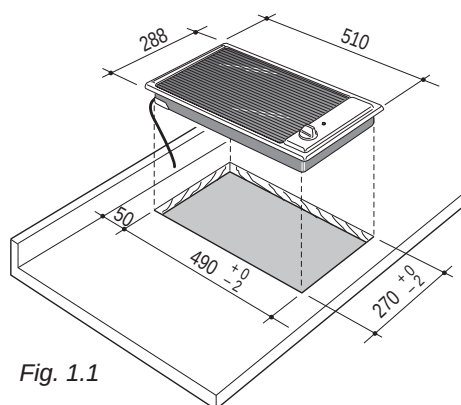

Fig. 1.1
In order to install the appliance into the kitchen fixture, a hole with the dimensions shown in fig. 1.1 has to be made, keeping in consideration the following:
- the wall behind the appliance must be at least 50 mm away (fig. 1.1) and must withstand temperatures not less than 150 °C.
- Cut the unit according to the dimensions in fig. 1.1.